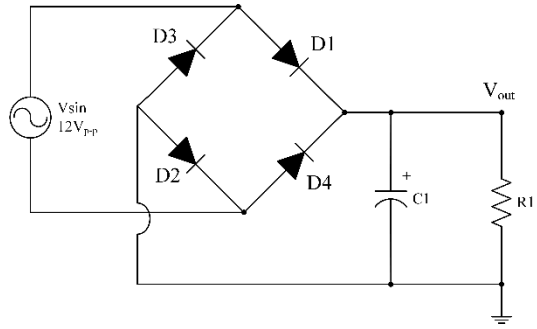

Figure 3
3. Build the bridge type rectifier given in Figure 3, observe the output signal when the capacitor is connected and when it is not. $R1=1k\Omega$ and $C1=1\mu F$. Examine the operation of the circuit and record the results. Comment on the difference with the other circuits.